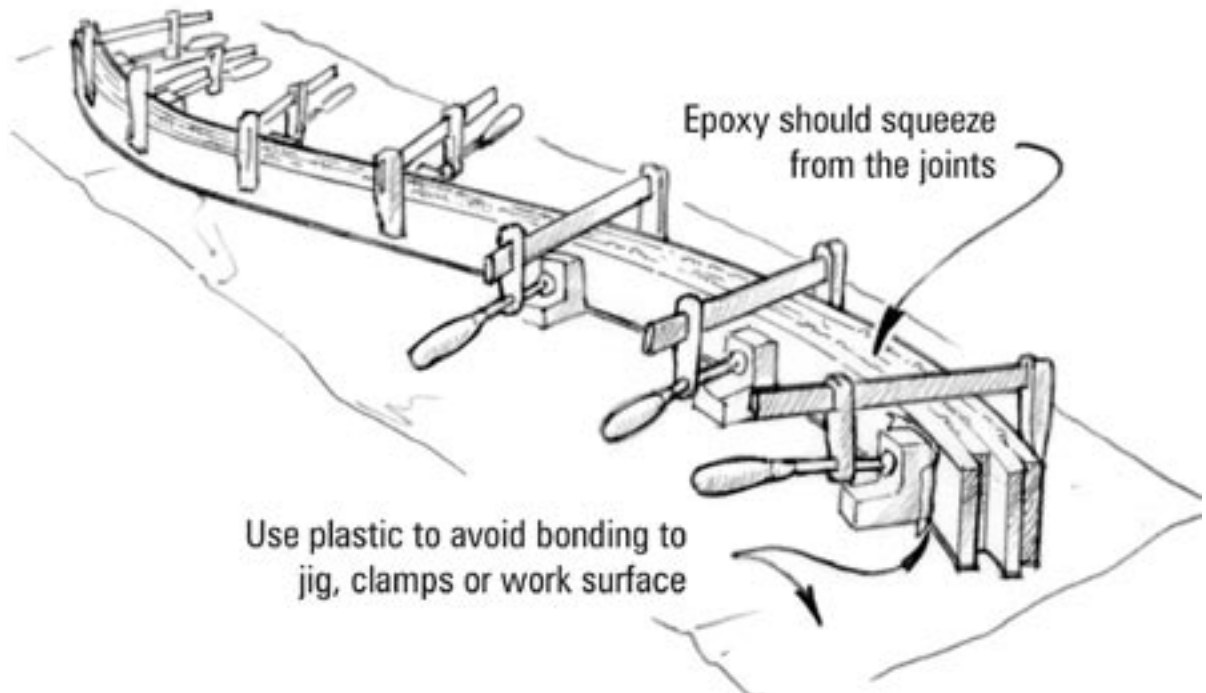

Figure 5-2 Clamp the appropriate number of coated strips into the jig. Trim the frame to size after the epoxy is fully cured.
4. Clamp the strips to the jig until the epoxy cures (Figure 5-2). Use clamps, wedges, staples or small nails to apply enough pressure to squeeze a small amount of epoxy from each joint.